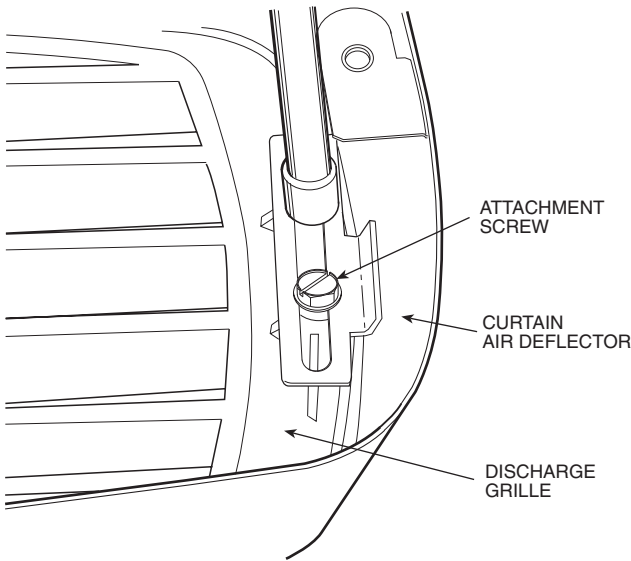

Fig. 4 — Attaching Discharge Grille to Curtain Deflector with 2 Screws
Step 5 — Attach with 2 screws saved in Step 3. See Fig. 4.